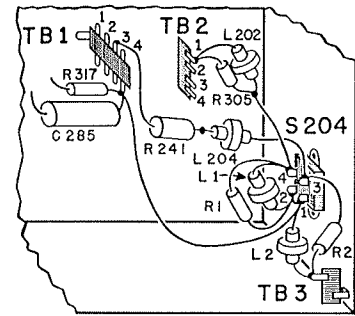

Figure G-2
5. Connect the free ends of L202 and R305 together, and connect this junction to S204-4, as shown in Figure G-2.